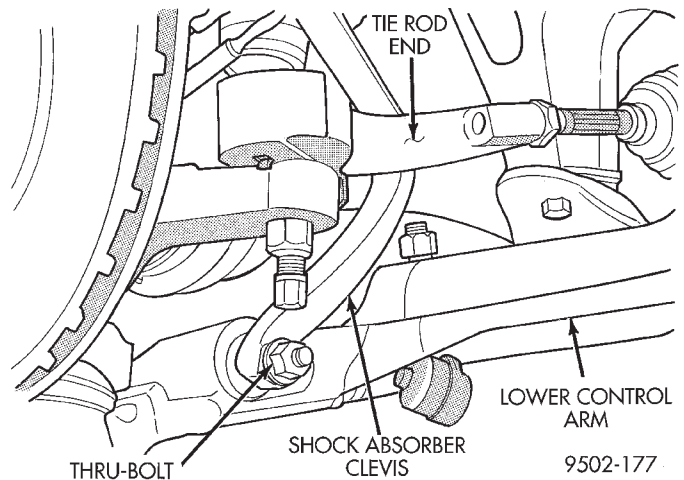

Fig. 55 Clevis To Lower Control Arm Attachment
(9) Remove the shock absorber clevis to lower control arm bushing thru-bolt. Separate clevis from lower control arm (Fig. 55).
(6) Install the stabilizer bar attaching link to lower control arm attaching nut. Tighten the attaching nut to a torque of 105 N·m (77 ft. lbs.).
(7) Install the clevis on the lower control arm. Loosely install the clevis to bushing thru-bolt (Fig. 55).
(9) **With the vehicle's suspension at curb height,** tighten the clevis to lower control arm bushing thru-bolt (Fig. 55) to a torque of 88 N·m (65 ft. lbs.).